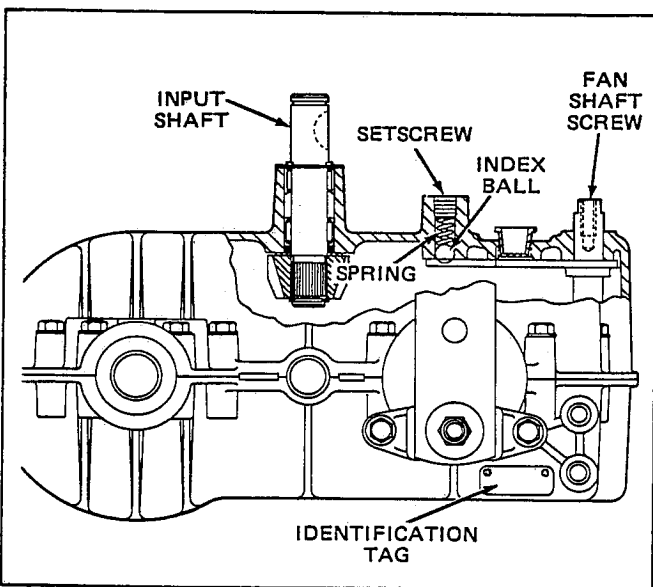

Figure 3-19
The unit contains an aluminum tag showing the model number. See Figure 3-19. Setscrew Adjustment is covered in paragraph F - Step 10.
4. Remove setscrew, spring and index ball. See Figure 3-19.